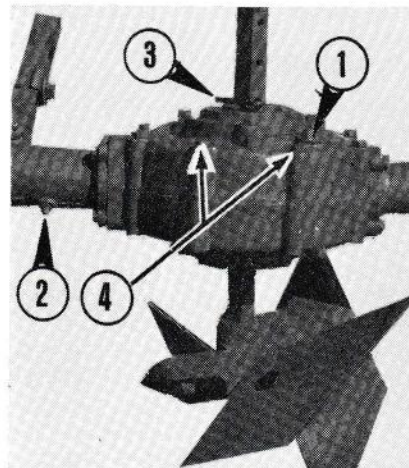

Figure 33
The Rotary Plow is attached to the Tractor by four bolts. Two bolts must be used to attach the Angle Adjusting Bracket, upper left in Figure 33.
Add oil by removing the Oil Filler Plug, 1 in Figure 33.
Use an occasional shot of General Purpose Grease in the swivel casting grease fitting, 2 in Figure 33.
The optional (at no extra cost) Dirt Shield is attached to the top of the Gear Housing by removing the bolts, 4 in Figure 33, inserting them through the Shield, and replacing in the Gear Housing. You can use the Dirt Shield to direct the throw of the dirt, by bending it up or down.
1. Leave the Plow Angle Adjusting Assembly (upper left in Figure 33) attached.